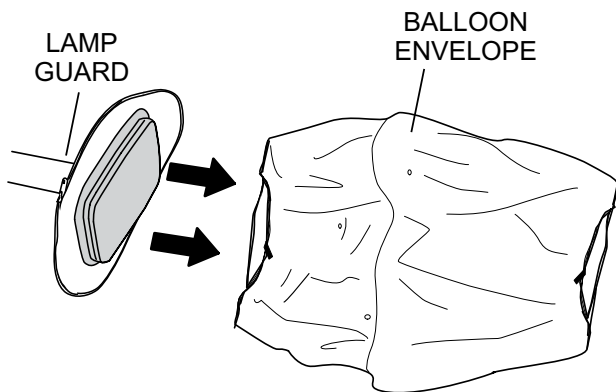

Figure 24. Removing the Balloon Envelope
2. Slide the old or worn balloon envelope (Figure 24) over the top of the lamp guard assembly.